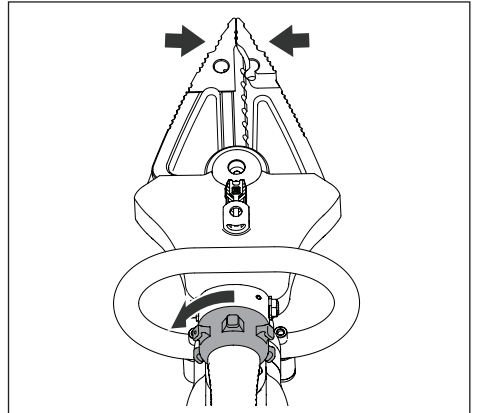

Figure 7, Blades/Jaws Closed
- Rotate the knob to the left and hold it to close the blades/jaws. See Figure 7.